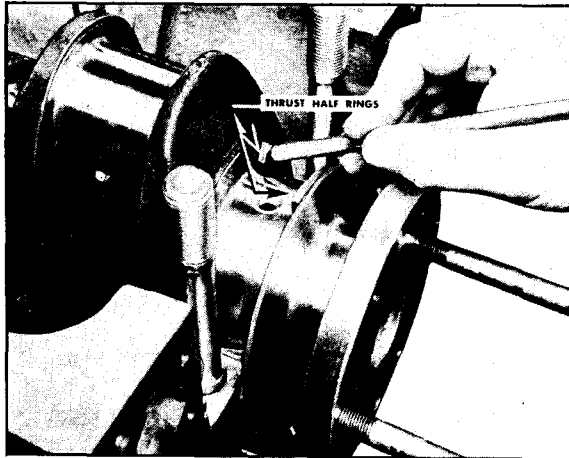

Fig. 12-4. Assembling upper thrust rings
6. Roll upper thrust half-rings into position with babbitt sides next to crankshaft flanges. Fig. 12-4.